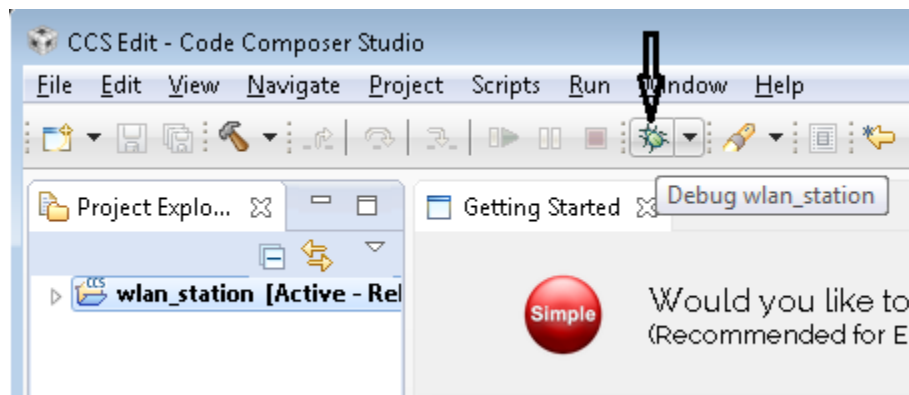

Figure 17. Debug wlan_station
16. Launch application. Select the `wlan_station` project in Project Explorer, then click the debug icon as shown in Figure 17 to download code to the device and begin debugging. Press F8 to begin execution.